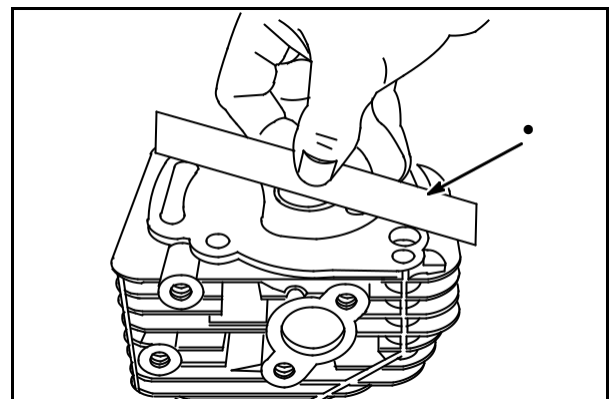

Fig. 9
1. Check cylinder head, **Fig. 9**.